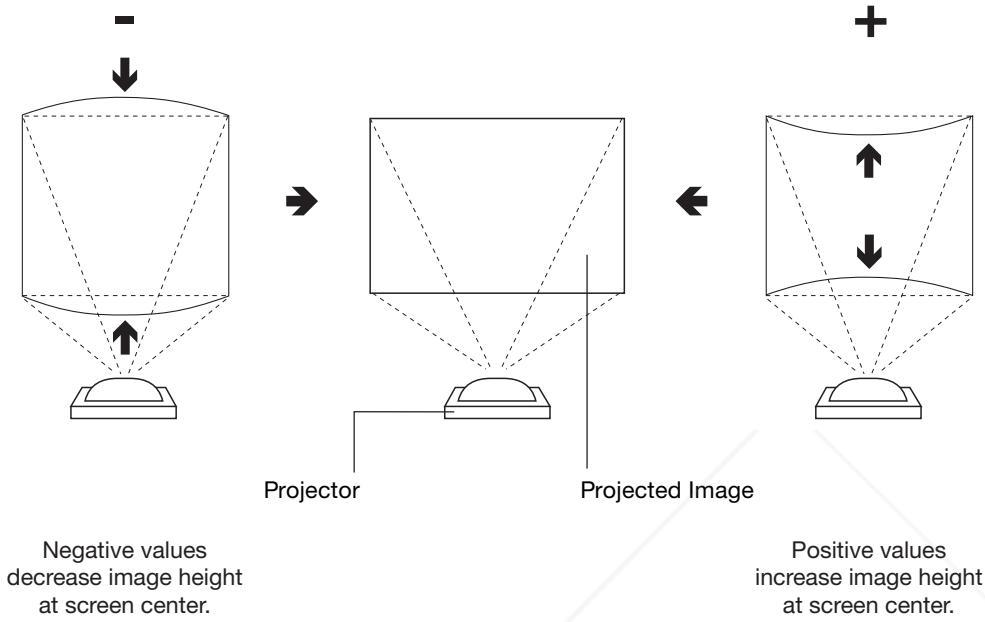

Figure 4-7. Pincushion Correction
- Pincushion:** “Pincushion” distortion can sometimes occur if the throw distance is very short and/or the projector is equipped with an anamorphic lens (refer to **Installing and Adjusting the CineWide Anamorphic Lens** in Section 3). To correct it, select Pincushion from the GeoCorrection menu and use the ◀ or ▶ button to make the image rectangular. See Figure 4-7.